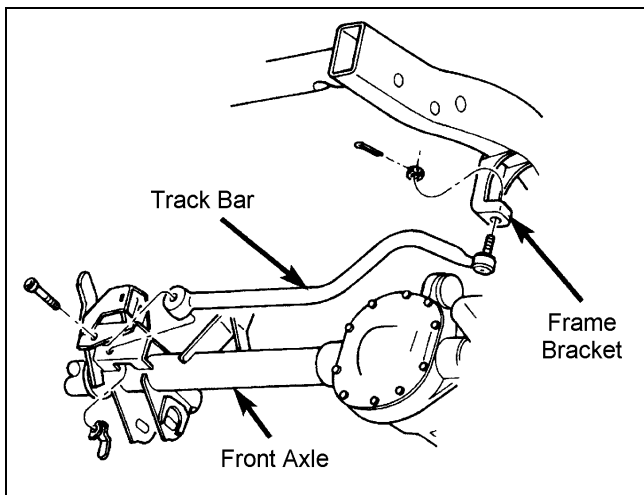

Figure 2
- 3) ☐ Remove the cotter pin and nut from the ball stud end of the track bar at the frame rail bracket. Separate the ball stud from the bracket with the recommended puller tool. See figure 2.